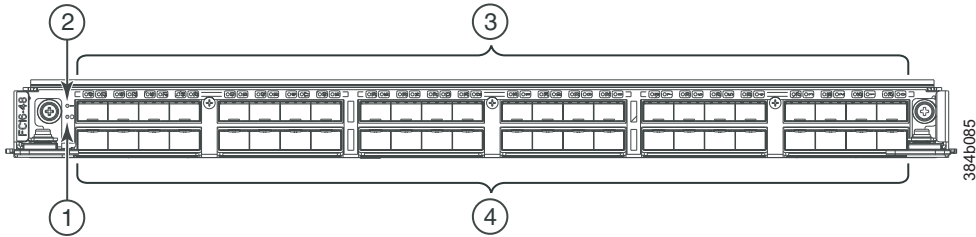

Figure 58. FC16-48 port blade
- Figure 58 on page 162 shows an FC16-48 port blade